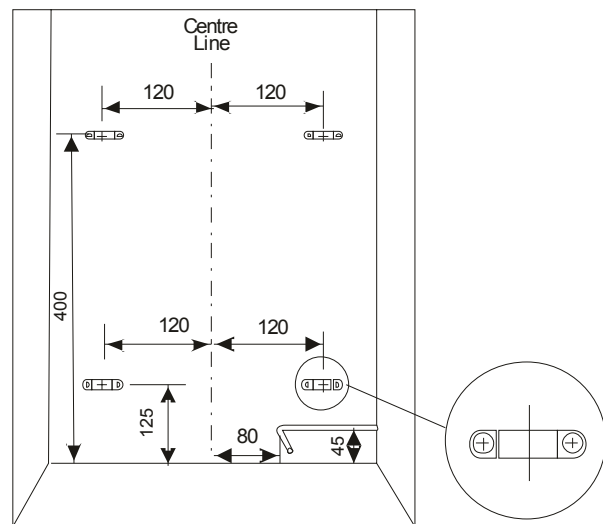

Figure 55
2. Mark out, drill, plug and fit the four cable guide brackets onto the rear wall of the fireplace opening as shown in **Figure 55**. Use 4.5mm masonry bit if drilling into masonry. Use 3.5mm bit if fitting the fire into metal flue box.
4. Install the gas supply within the opening using rigid or semi-rigid tubing allowing for rear entry into the fire box (see **Figure 55**).